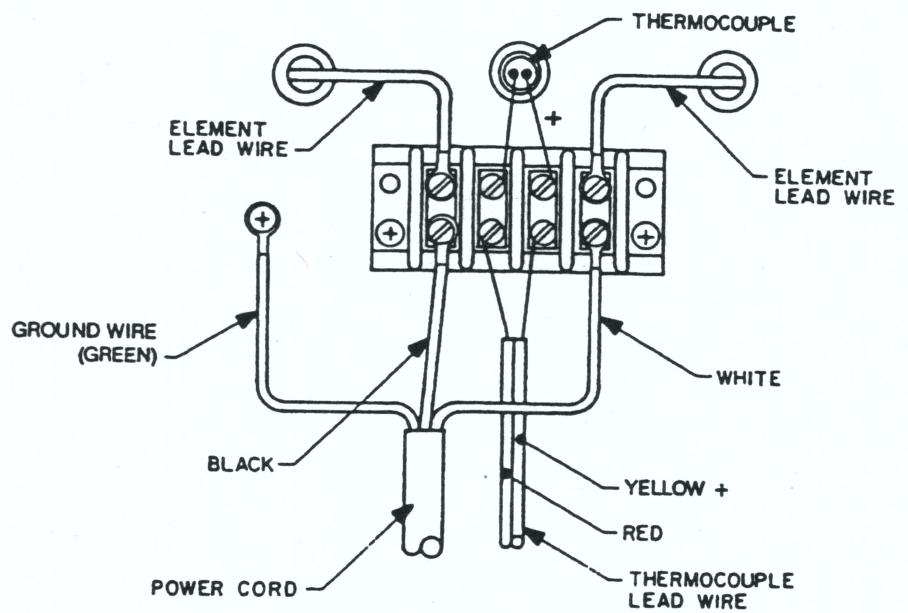

Figure 2 All Models
- f. Insert power cord and thermocouple extension wires through their proper holes in the bracket on the new furnace chamber. (See Figure 2 for placement and connection of wires.)
- e. Insert the new thermocouple until tip extends approximately 1/4" into the heating chamber. Connect the lead marked (+) on insulator of thermocouple to the terminal across from yellow thermocouple extension wire, and fasten the other thermocouple lead (-) to the remaining terminal. (See Figure 2.)
- f. Connect the blue and yellow beaded thermocouple lead to the terminal across from yellow thermocouple extension wire and the other thermocouple lead to the remaining terminal. (See figure 2)